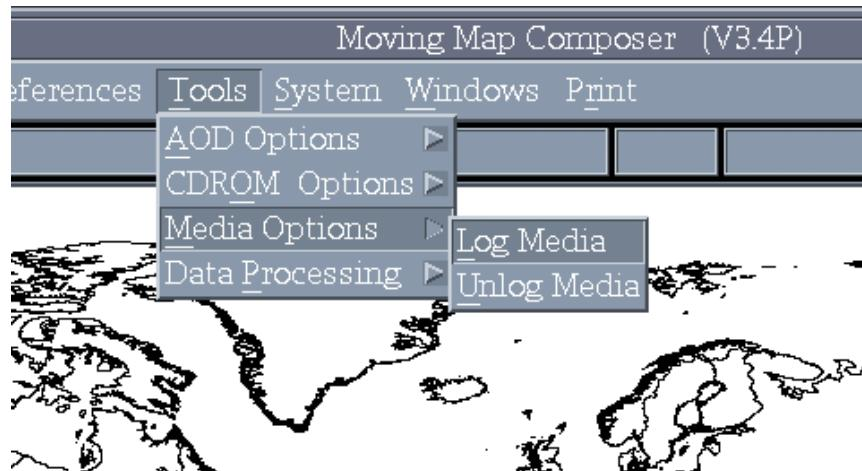

Fig. 10 – Media options
- From the main menu, click on *Tools*, then *Media Options*, then *Log Media* (Fig. 10).
- i. From the main menu, click on *Tools*, then *Media Options*, then *Log Media* (Fig. 10).